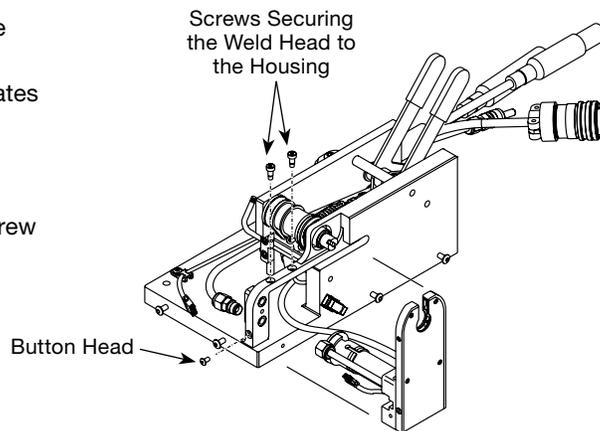

Figure 43 Removing the Weld Head Assembly
14. Remove the two locating shoulder screws and button head screw to remove the weld head assembly. See Figure 43.